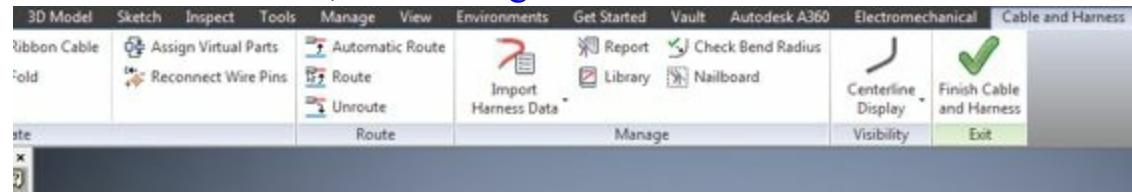

Figure-38. Cable and Harness contextual tab
- Specify the desired name and location for harness model. Click on the **OK** button from the dialog box. The **Cable and Harness** contextual tab will be added in the **Ribbon** with options related to cable and harness; refer to Figure-38.